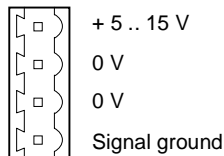

Fig. 3: Power supply socket of Model M68R1
- The M68R1 also has its power supply connector at the rear. It is a 4-pole frame connector type WAGO 232. The pin designation is shown in Fig. 3.